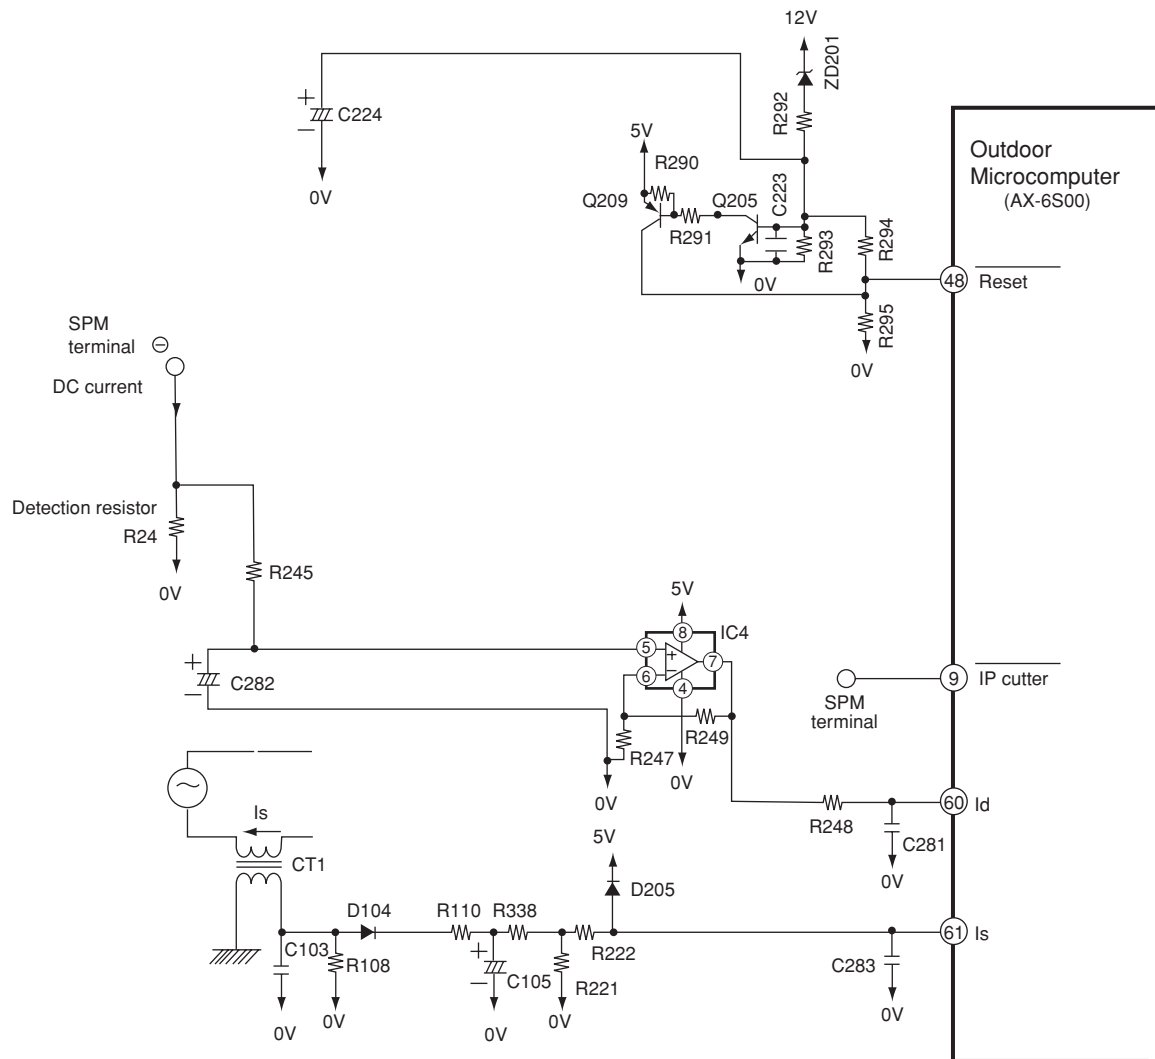

Fig. 7-1 Peripheral circuit of microcomputer (AX-6S00)
- Fig. 7-1 shows the microcomputer and its peripheral circuits.